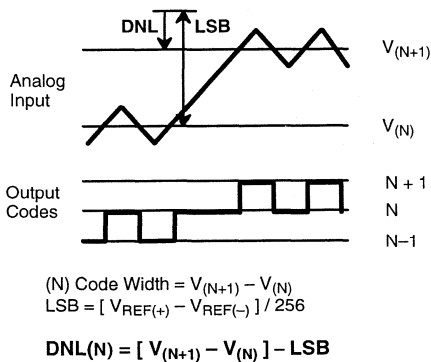
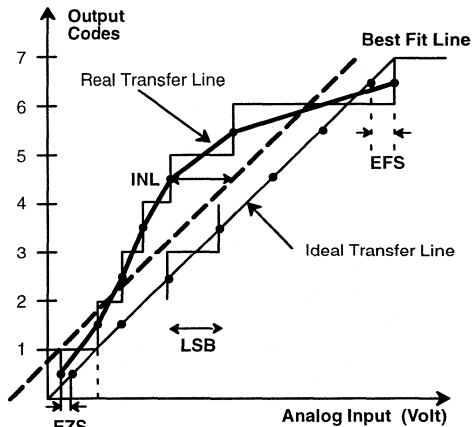

Figure 3. DNL Measurement
Figure 4. INL Error Calculation
- Tester measures code transitions by dithering the voltage of the analog input (V_{IN}). The difference between the measured and the ideal code width (V_{REF}/256) is the DNL error (*Figure 3*). The INL error is the maximum distance (in LSBs) from the best fit line to any transition voltage (*Figure 4*). Accuracy is a function of the sampling rate (F_S).
Figure 4. gives a visual definition of the INL error. The chart shows a 3 bit converter transfer curve with greatly exaggerated DNL errors to show the deviation of the real transfer curve from the ideal one.